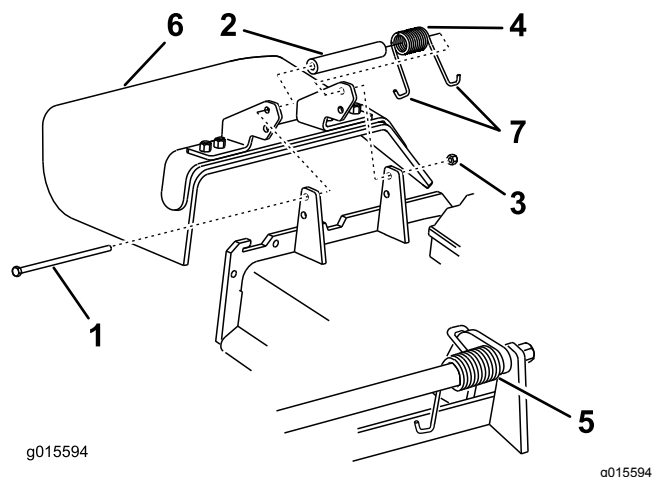

Figure 97
1. Remove the locknut, bolt, spring, and spacer holding the deflector to the pivot brackets (Figure 97).
Note: Ensure that a J-end of spring is installed behind deck edge before installing the bolt as shown in Figure 97.
5. Place a J-hook end of spring around grass deflector (Figure 97).